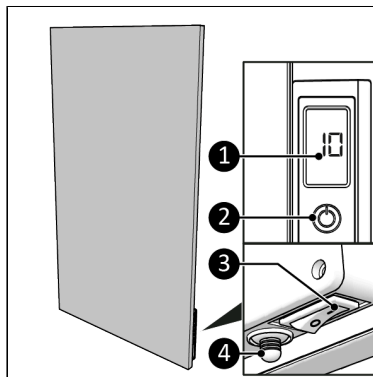

Figure 47.
1. Set the ON/OFF switch to the ON position (Figure 47, pos. 3).
2. Press the ON/OFF button on the control panel (Figure 47, pos. 2) or on the remote control.
3. The display (Figure 47, pos. 1) will first show the set temperature for 3 seconds followed by the ambient temperature.